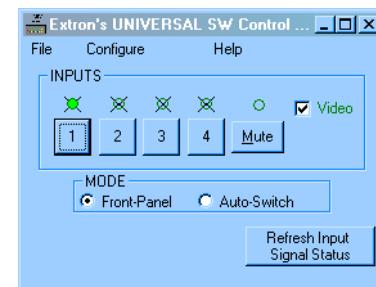

Figure 3-4 — The Universal Switcher program window
3. The Extron Universal Switcher Control Program window (figure 3-4) displays the selected input and panel mode (Front-Panel [normal] or Auto-Switch).